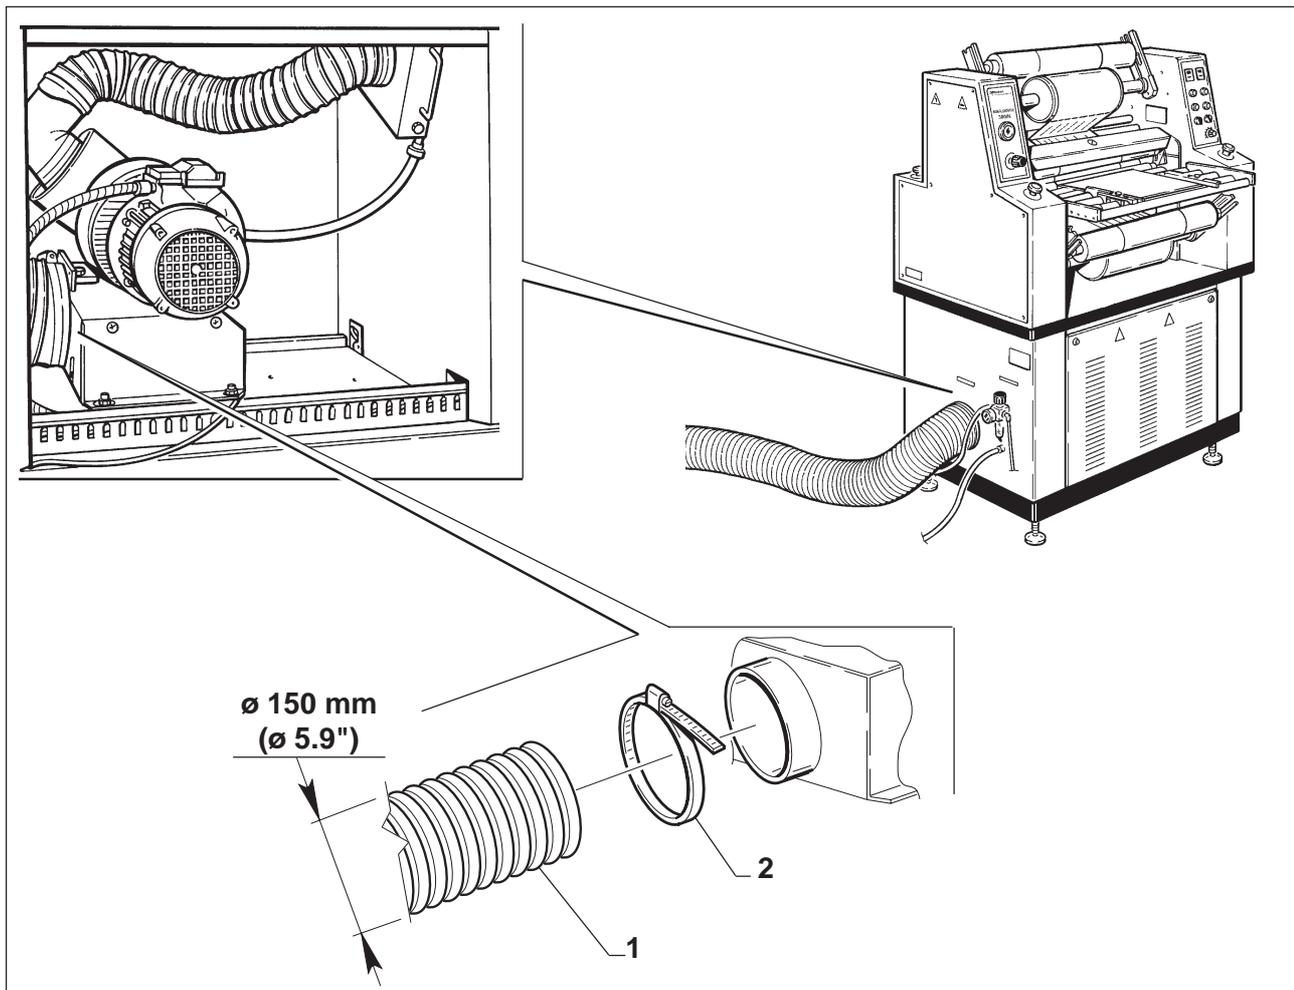

Fig.5 - EXHAUST HOSE CONNECTION
1.5.E -Exhaust hose connection (Fig. 5)
- The Manual Laminator 360/N is supplied with 5 mt of flexible hose (1) 150 mm diameter and two hose clamps (2).